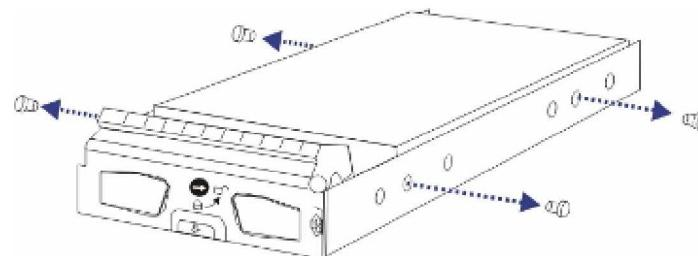

Figure 5-33: Loosening the Hard Drive Screws
Step 5. Remove the four (4) retention screws located on the sides of the drive tray (two on each side.) (See *Figure 5-33*)